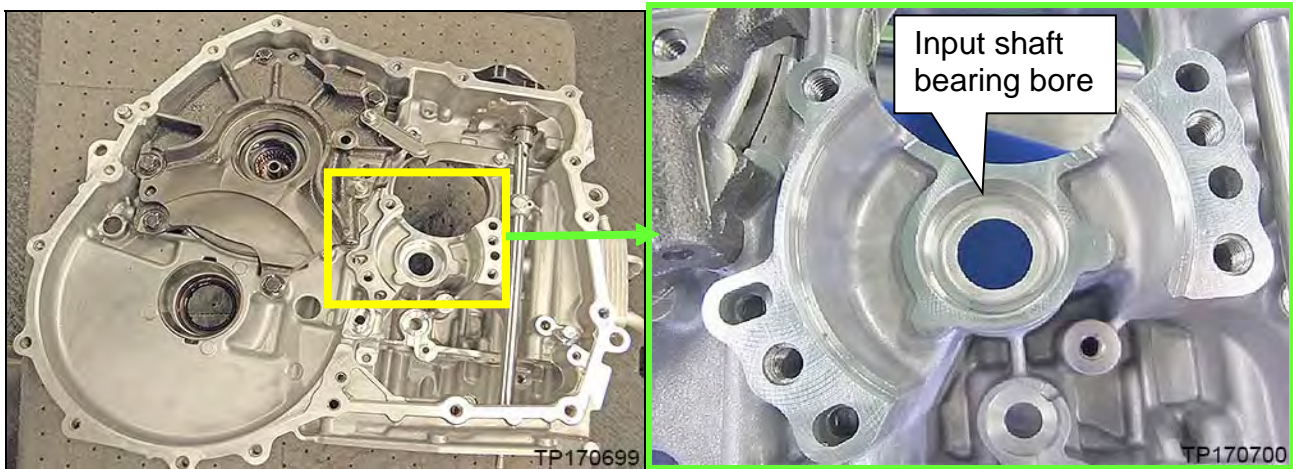

Figure 5L
5. Clean the input shaft bearing bore area (Figure 5L).